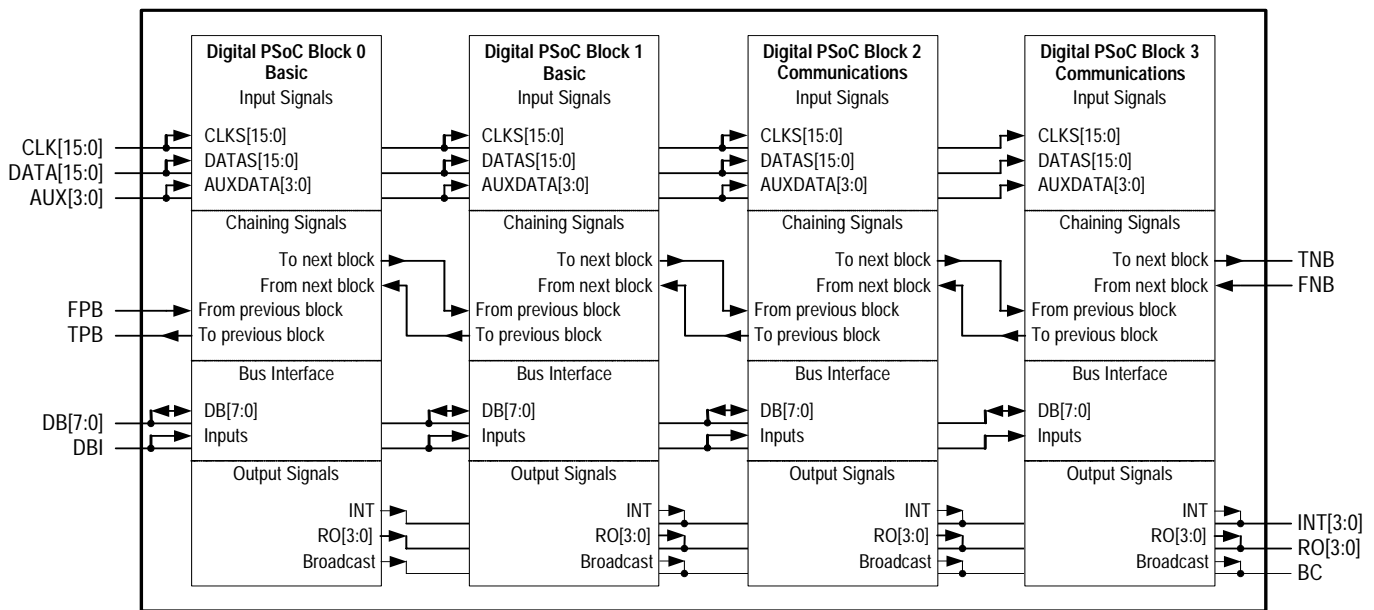
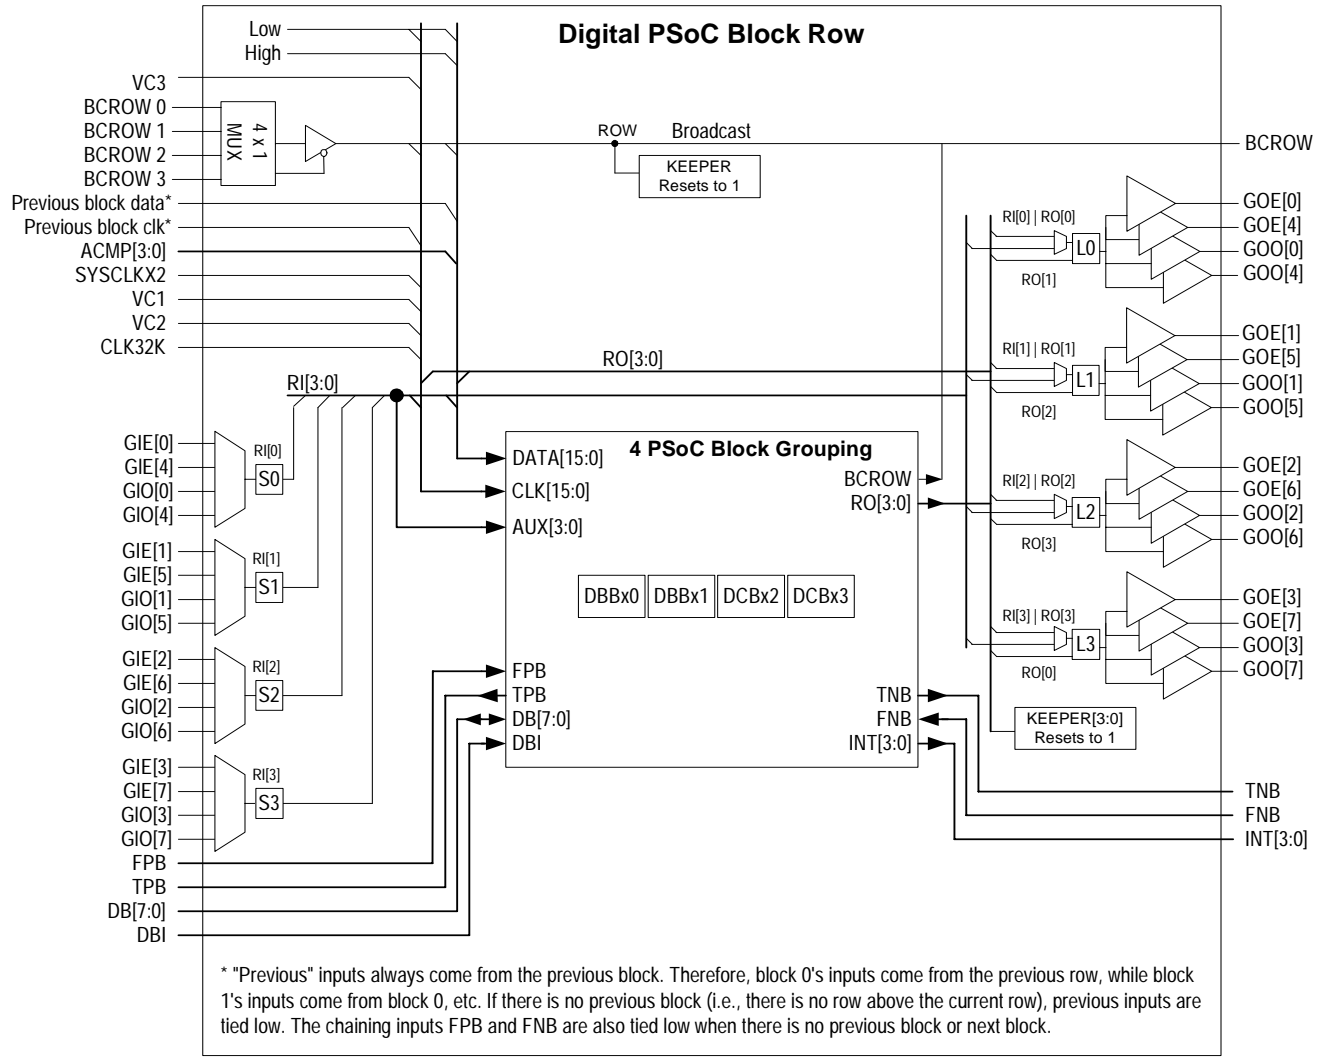

Figure 16-1. Detailed View of Four PSoC Block Groupings
Figure 16-2. Digital PSoc Block Row Structure
In Figure 16-1, within a Digital PSoC Block row, there are four digital PSoC Blocks. The first two blocks are of the type basic (DBB). The second two are of the type communication (DCB). This figure shows the connections between digital blocks within a row. Only the signals that pass through the bold line in Figure 16-1 are shown at the next level of hierarchy (Figure 16-2 on page 203).
In Figure 16-2, the detailed view of the four PSoC block grouping, as seen in Figure 16-1, has been replaced by the box in the center of the figure labeled “4 PSoC Block Group-
ing.” The rest of the configurable nature of the Row Inputs (RI), Row Outputs (RO), and Broadcast clock net (BC) is shown. The next level of hierarchy is shown in Figure 16-1.
The only configurable inputs to a Digital PSoC Block Row are the Global Input Even and Global Input Odd 8-bit buses. The only configurable outputs from the Digital PSoC Block Row are the Global Output Even and Global Output Odd 8-bit buses. Figure 16-2 on page 203 illustrates the relationships between global signals and row signals.
Notice on the left side of Figure 16-2 that global inputs (GIE[n] and GIO[n]) are inputs to 4-to-1 multiplexers. The output of these multiplexers are Row Inputs (RI[x]). Because there are four 4-to-1 multiplexers, each with a unique set of inputs, a row has access to every global input line in a PSoC device.
The outputs from a Digital PSoC Row are a bit more complicated than the inputs. Figure 16-2 on page 203 illustrates the output circuitry in a Digital PSoC Row. Notice in the figure a block labeled “Lx.” This block represents a 2-input lookup table (LUT). The LUT allows the user to specify any one of 16 logic functions that should be applied to the two inputs. The output of the logic function will determine the value that may be driven on to the Global Output Even and Global Output Odd busses. Table 16-5 lists the relationship between a lookup table's four configuration bits and the resulting logic function. Some users may find it easier to determine the proper configuration bits setting by remembering that the configuration's bits represent the output column of a two input logic truth table. Table 16-5 lists seven examples of the relationship between the LUT's output column for a truth table and the LUTx[3:0] configuration bits.